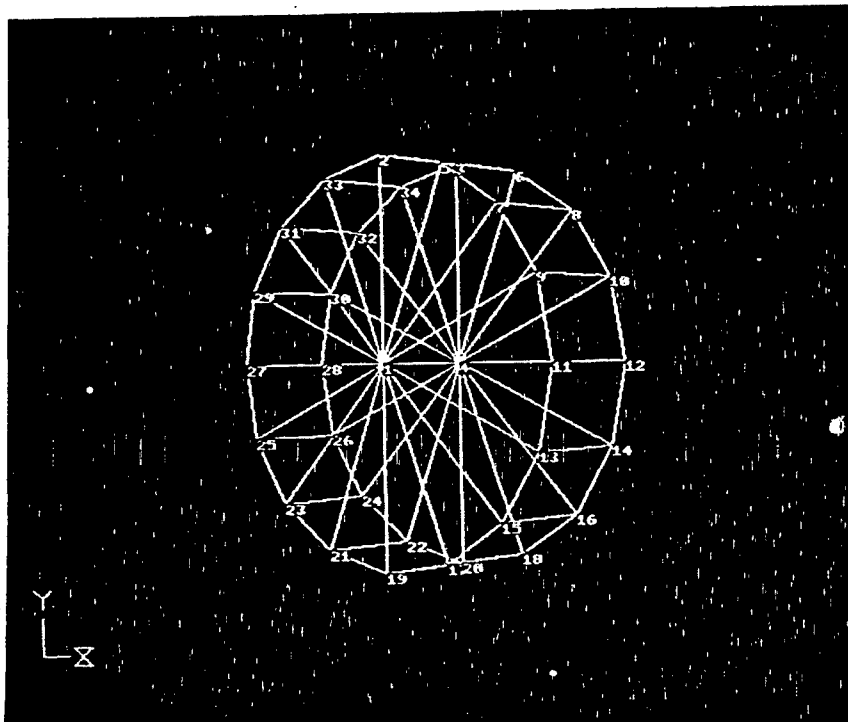

Figure 5-3. Draw Mode Picture of Cylinder
5.3.2. The following is an example similar to the one above describing a cylindrical shape. After running [USED]UTILITY, MAKE VOLU REVO is entered. Four nodes are to be used and the shape is to be revolved a full 360 degrees. The four nodes are then entered as follows: 0 0 0, 0 0 6, 3 0 6, 3 0 0. The only other prompt to be answered is the one requesting the number of circumferential elements, 16. This part must also be saved by entering GEOM WRIT, the file being named B.GEO. Pictures of this part in both modes are in Figures 5-3 and 5-4.